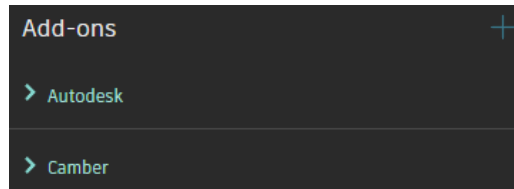

Figure 12.8 – Dynamo for Civil 3D Add-ons
- Our **Add-ons** section below the **Library** is where we can incorporate custom nodes that can be made available to us by downloading custom Dynamo packages as shown in *Figure 12.8*.